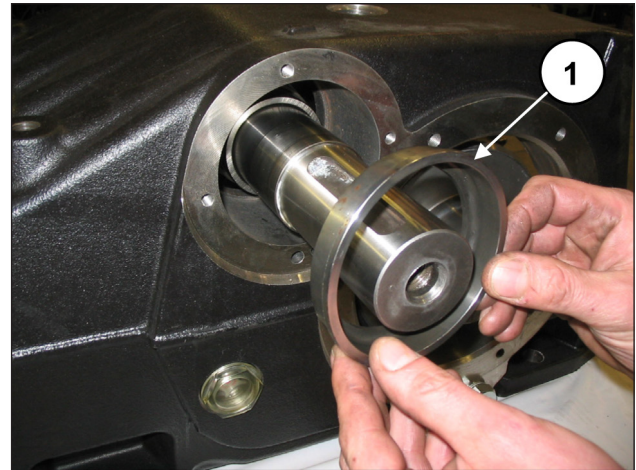
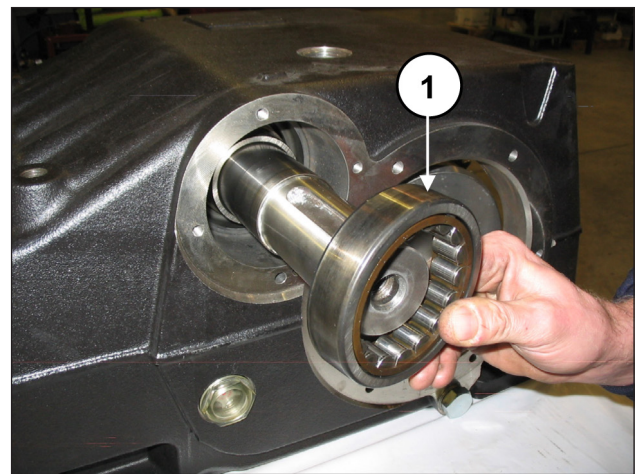

Fig. 57
Fig. 58
From the side of the casing where the PTO shaft was inserted, proceed to insert the bearing lubrication bush (pos. ①, Fig. 57) and an external bearing ring (pos. ①, Fig. 58) using a buffer and an extractor hammer.